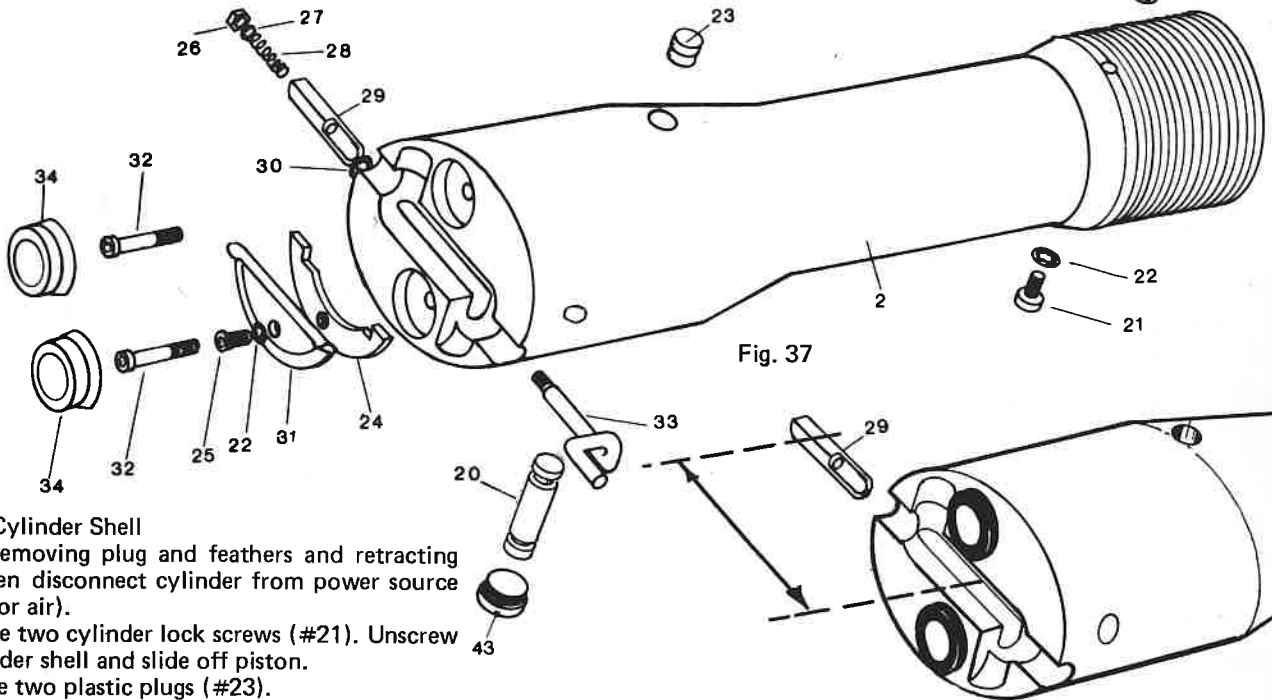

Fig. 37
9. **Caution:** When reinstalling the sleeve (#29), make sure that the flat side of the sleeve is flush with the flat inside of the lower shell or you will not be able to reinstall the plug. Fig. 37